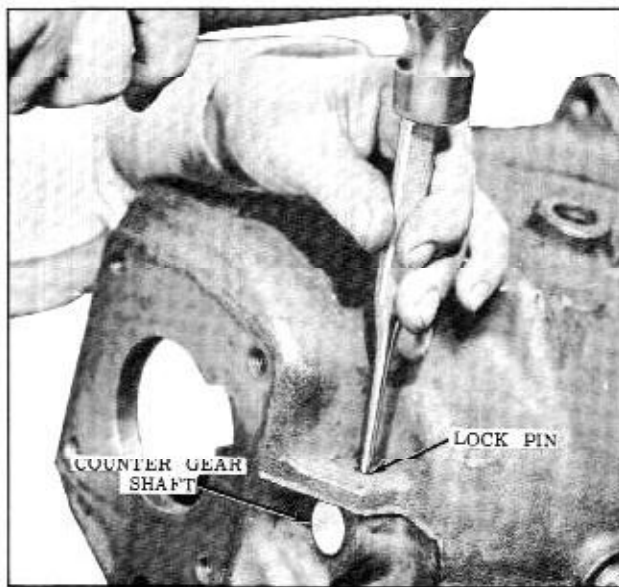

Fig. 11-16 Driving Lock Pin Into Shaft
19. Drive the counter gear shaft lock pin into the shaft. (Fig. 11-16).